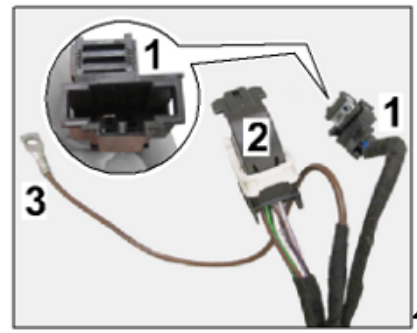

Figure 13
2.4.5 Install trailer hitch control unit into the bracket (⇒ *Figure 13*).